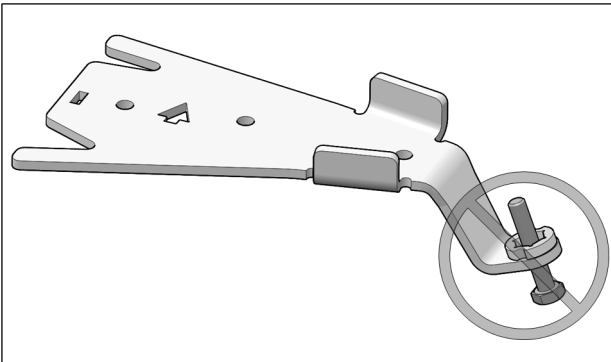

Fig. 15
**CAUTION:** Make sure that the bolt is inserted in the right direction. See Fig. 15